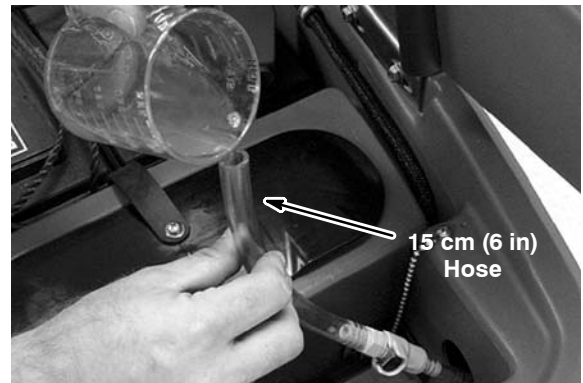

FIG. 59
- Pour the recreational vehicle (RV) antifreeze into the supply hose until full (Figure 59).